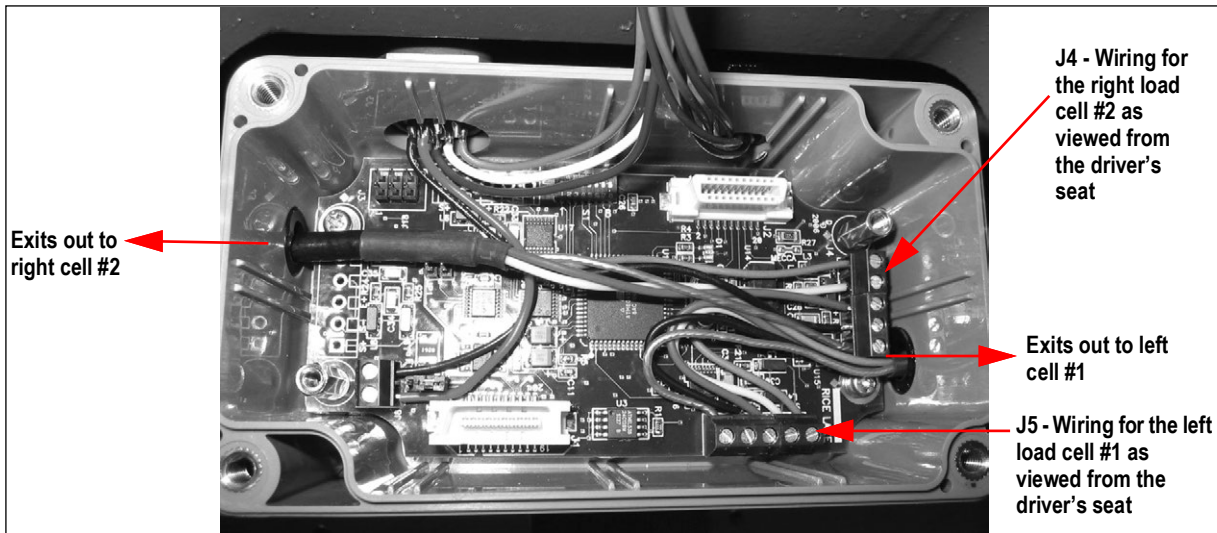

Figure 4-16. Bottom Board Wiring
NOTE: The bottom board which is shown in Figure 4-16 connects the wiring for both load cells one and two. Table 4-10 lists the wiring assignments for the bottom board.
7. Reconnect the wires to the bottom board per Figure 4-16 and Table 4-10.